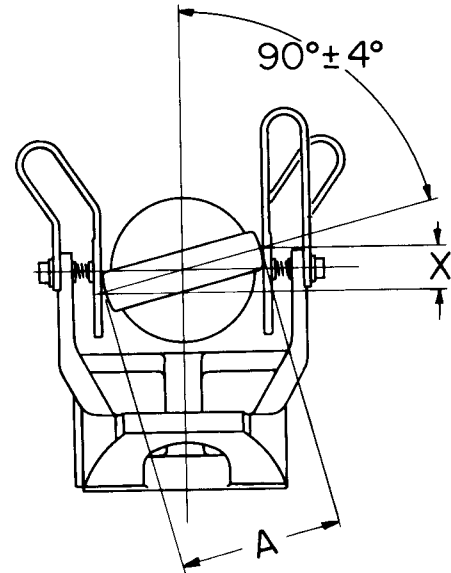

Fig. 6. End view showing blade contact angle
Fig. 6 shows blade in closed position. The allowable difference in elevation from one side of the blade contact to the other (dimension X) is 1/16" for each 1" of contact width. Example: If contact width (A) is 3", then dimension (X) can be as much as 3/16" and still be within the plus or minus 4° tolerance.
Also, Fig. 6 shows blade contact high on the right and low on the left. The reverse is also acceptable, high on the left and low on the right. It is common to have both situations on one three-pole switch. In fact, after all three poles have been adjusted in the open position, and then closed, you may find one pole will be high on the right, one fairly level and one high on the left. This is due to many variables and tolerances plus the free play or clearance in pin connections of all the switches and control parts.